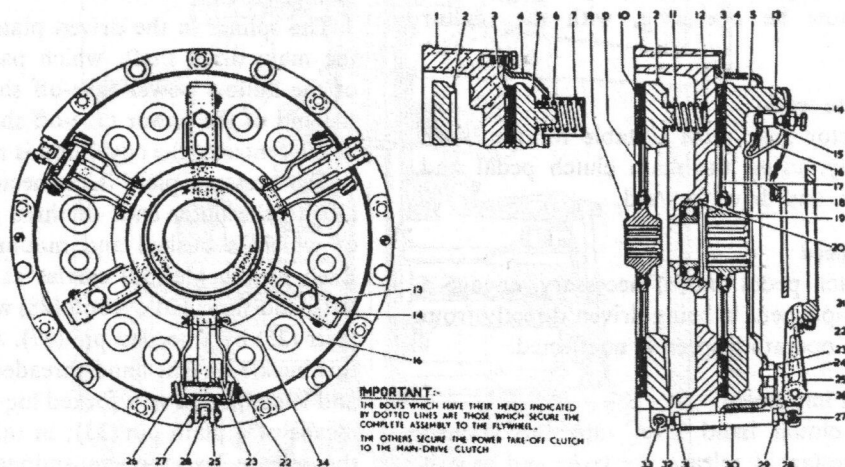

Fig. Q.22
The power take-off clutch (see Fig. Q.22) comprises a cover (4), a pressure plate (5), 12 thrust springs (6) carried in cups (7), and a driven plate with a splined hub (19) to which is riveted a disc (17) carrying two friction facings (3). The splines in the driven plate hub engage splines on the power take-off shaft. The power take-off cover is attached to the main drive cover (1) by six bolts fitted with spring washers.
With both clutches engaged, as illustrated in Fig. Q.22, the thrust springs (11) are clamping the inner driven plate (10) between the flywheel and the pressure plate (2), and the other thrust springs (6) are clamping the outer driven plate (3) between the main drive cover (1) and the pressure plate (5); engine torque is therefore transmitted to, and shared by, the main drive shaft and the power take-off shaft. To obtain the transmission of engine torque through the main drive clutch disengage the power take-off clutch, and to obtain engine torque for the P.T.O. shaft disengage the main drive clutch.
Place a staple (Service tool 18G498) over the three main clutch release levers (25) (see Fig. Q.22), and hook the end of each staple beneath the independent clutch cover (4) (Fig. Q.22).
Remove the clutch assembly complete with the transmission shafts from the flywheel by taking out the nine securing bolts shown dotted in Fig. Q.22.